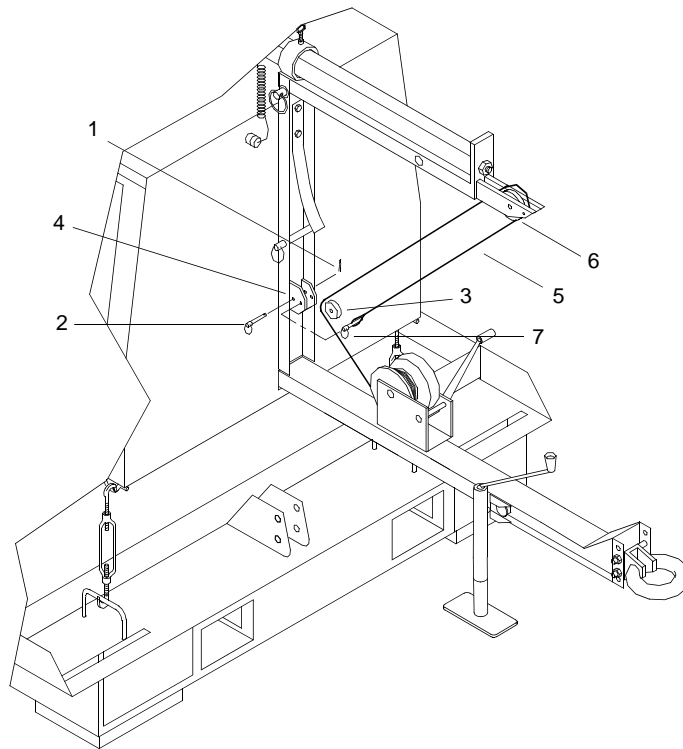

Figure 5. Drawbar Setup for Raising Tower
31. Remove cotter pin (figure 5, item 1) and pulley pin (figure 5, item 2) securing tower support pulley (figure 5, item 3) to tower support pulley bracket (figure 5, item 4) inner holes. Discard cotter pin (figure 5, item 1).
32. Route drawbar winch cable (figure 5, item 5) under tower support pulley (figure 5, item 3) and install tower support pulley (figure 5, item 3) on tower support pulley bracket (figure 5, item 4) with pulley pin (figure 5, item 2) and new cotter pin (figure 5, item 1).
33. Route drawbar winch cable (figure 5, item 5) over pivot support pulley (figure 5, item 6) and back to tower support pulley bracket (figure 5, item 4).
34. Remove quick release pin (figure 5, item 7) from tower support pulley bracket (figure 5, item 4) outer holes.
35. Position end loop of drawbar winch cable (figure 5, item 5) in tower support bracket (figure 5, item 4) and install quick release pin (figure 5, item 7).